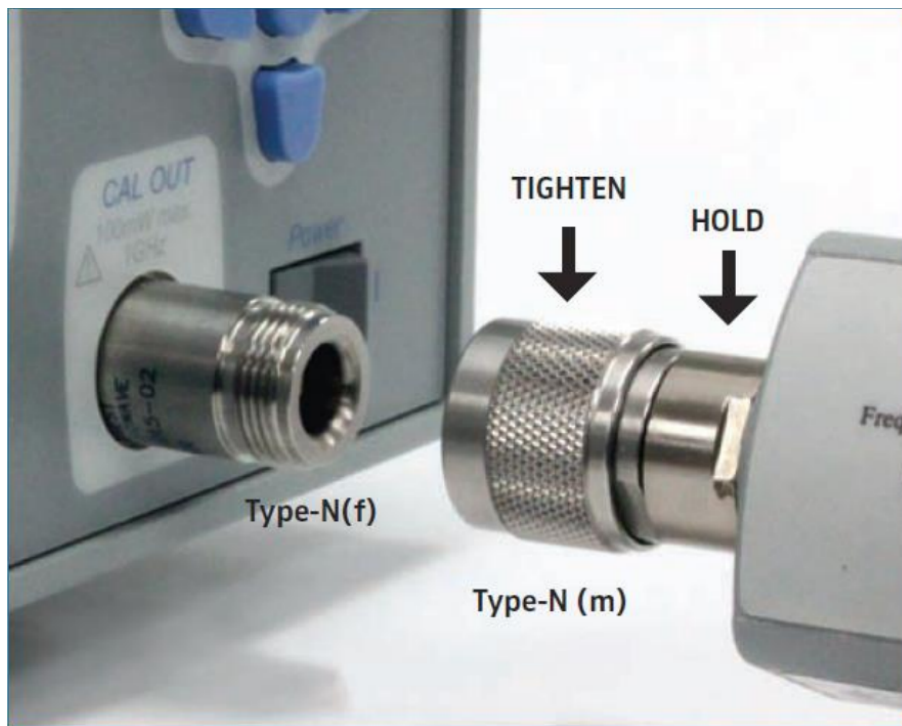

Figure 7.1 Connecting Type-N(f) to Type-N(male)
- After proper alignment, rotate the connector nut by hand to connect or disconnect the connector of the sensor from a signal source as shown in figure 7.1.